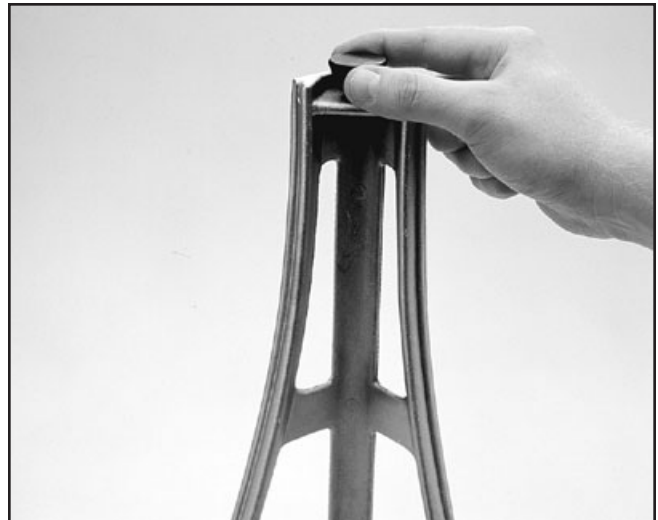

Figure 3. Attaching the feet to the legs.
- Step 4** - Attach the feet to the legs. **Figure 3.**